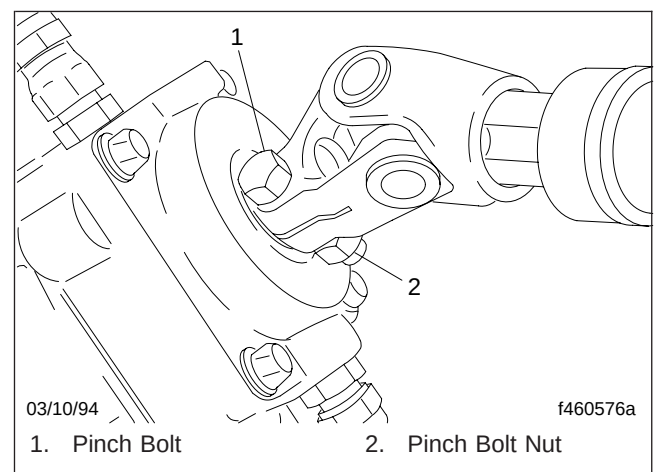

Fig. 3, Pinch Bolt Installation
7. Slip the driveline lower end yoke back on the input shaft, then insert but do not tighten the pinch bolt. See Fig. 3.